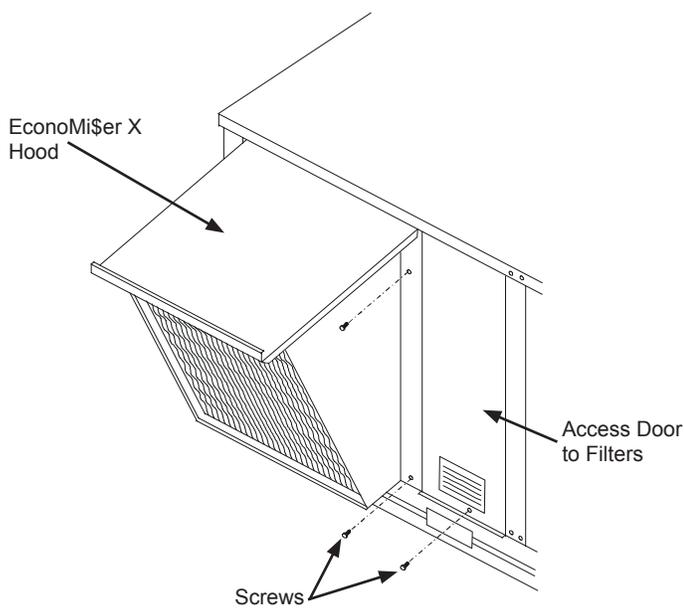

Fig. 11 - EconoMiSer2 Hood Installation
17. Install the EconoMi\$er X hood over the EconoMi\$er X. Use screws provided. (See Fig. 11 and 13.) Insert screw through right side flange of hood into EconoMi\$er X flange.
24. Install access door next to hood. Screw bottom of door to HVAC unit. (See Fig. 11 and 13.) For the economizer for the extra large cabinet, install plastic inserts on right-hand vertical post and install long gasketed screws along the vertical edge. Use standard serrated screws along the bottom of the panel for all units.